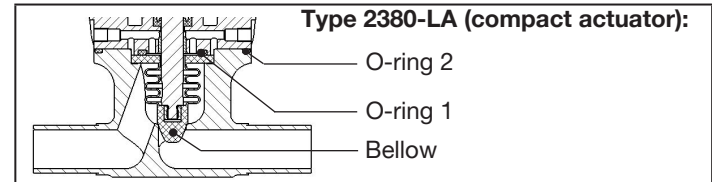

Fig. 8: Detail - valve body - O-rings
- Remove the O-ring 2 (see „Fig. 8“) from the valve body.